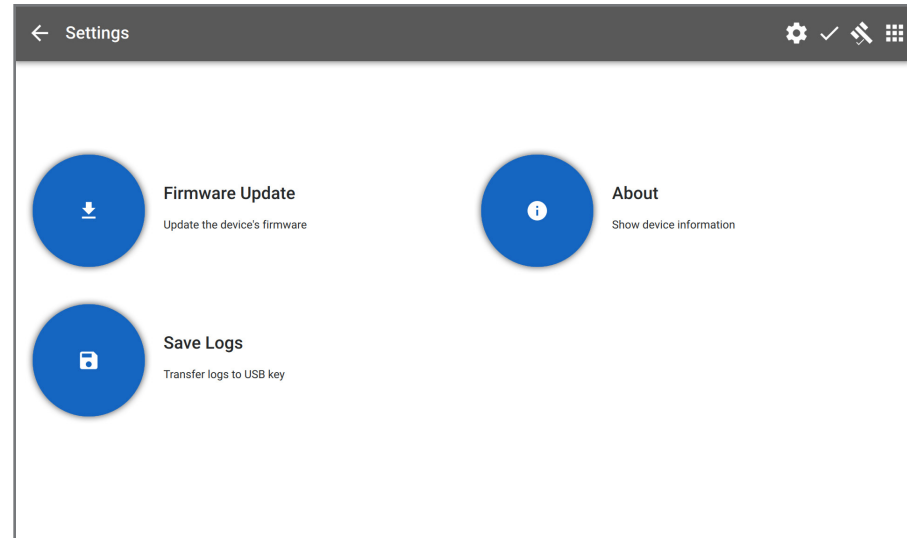
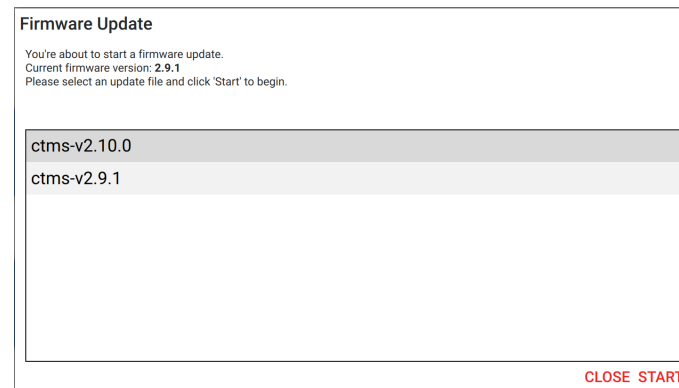

Fig. 2-13: Settings main menu screen.
Fig. 2-14: Firmware update screen.
- From the main menu, tap Settings. The main settings window should appear (Fig. 2-13). Tap Firmware Update to open the firmware update window (Fig. 2-14).